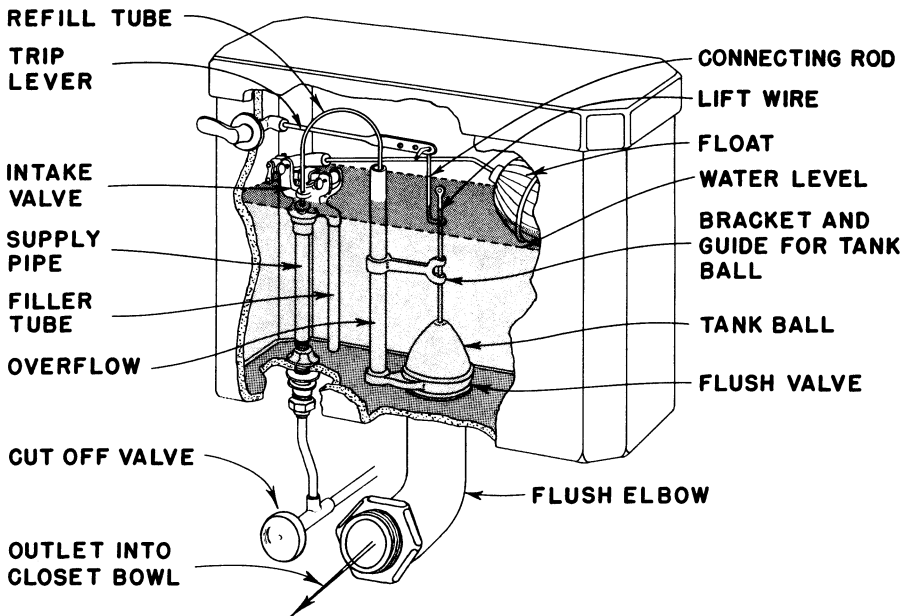

Figure 5.—Water closet flush tank.
Figure 5 shows a common type of flushing mechanism. Parts
- Disconnect the water pipes to the tank (see fig. 5).